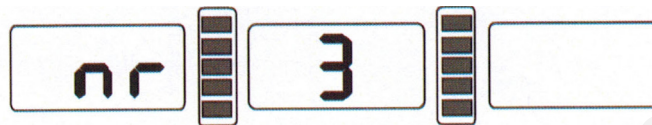

Fig. 10-13
1. Press a+ key, back to figure 7-1 interface, press D key and OPT key, display input numbers of spoke (figure 10-13), press b+ or b- key input spoke numbers, press D key and OPT key to save and return, slowly turn the wheel, turn the near by imbalance position of spoke on the top (12 o'clock), press D and OPT key to enter hide stick mode, and then press D and OPT key to exit.